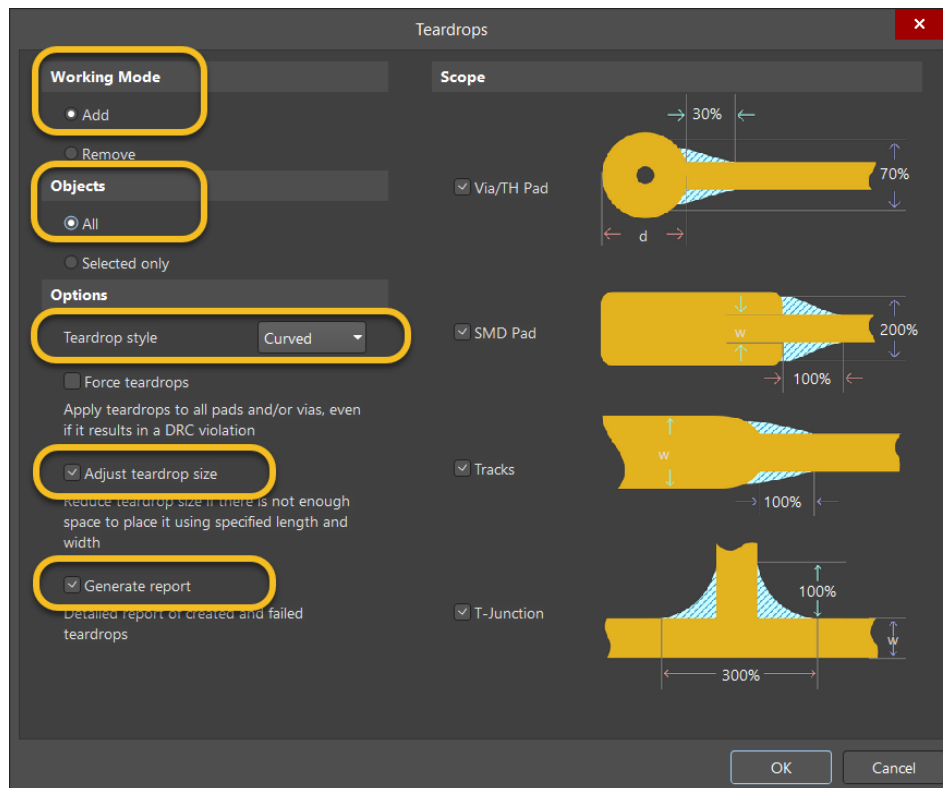

Figure 7. Generating a Teardrop Report
35. In the *Options* dialog, enable **Adjust teardrop size** and **Generate report**, Figure 7.